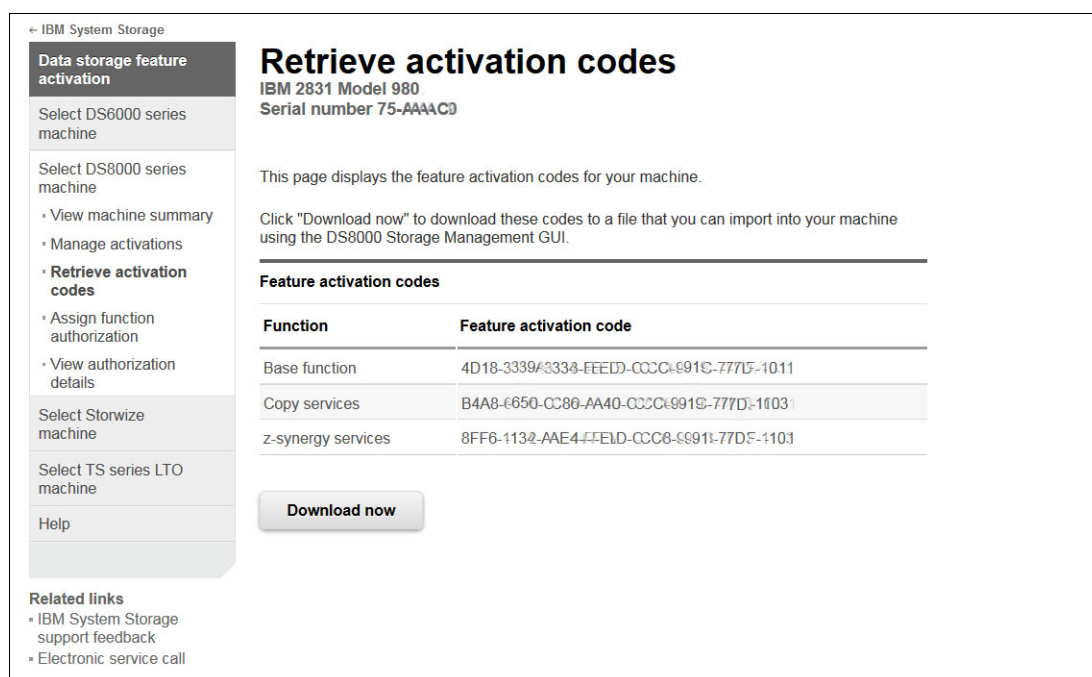

Figure 9-13 DSFA Retrieve activation codes window
- The Retrieve activation codes window opens, which shows the license activation codes for the storage image, as shown in Figure 9-13. Print the activation codes or click **Download now** to save the activation codes in an XML file that you can import into the DS8000.